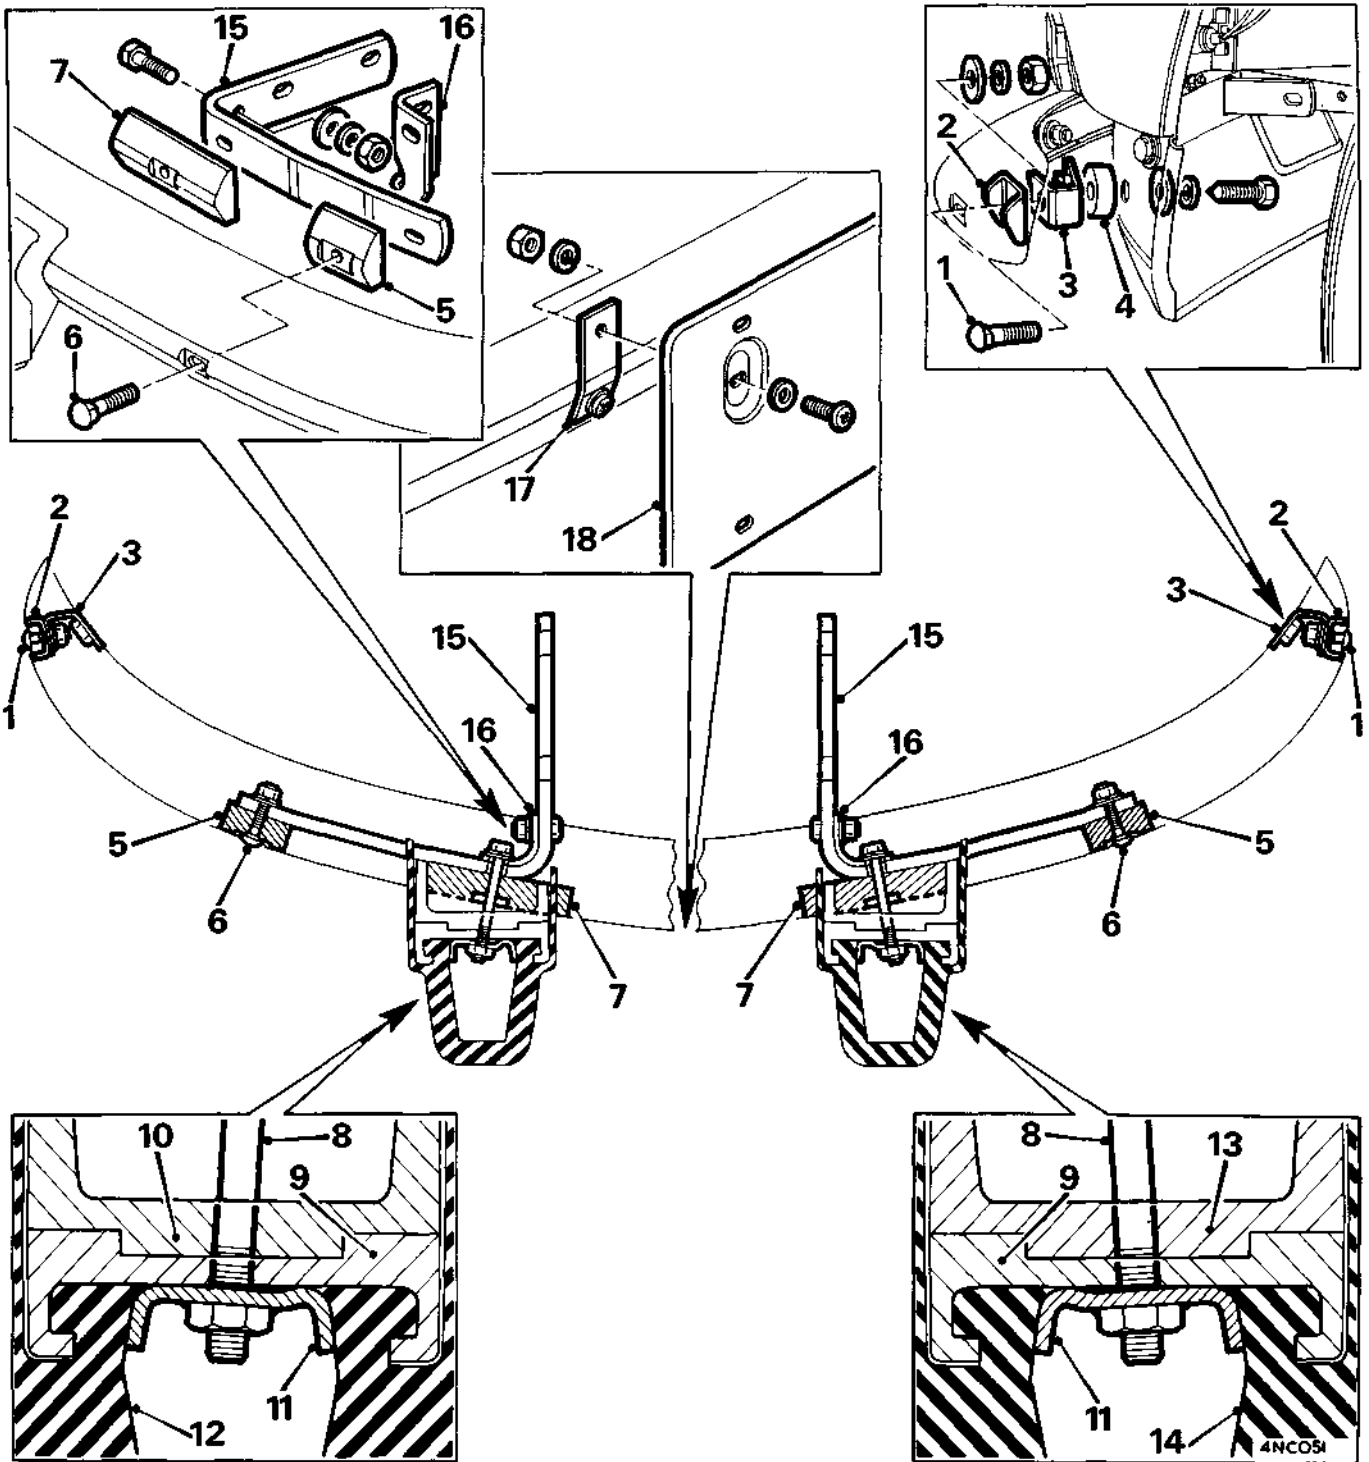

Fig. Ra.6
7. Reverse the procedure in 1 to 6, referring to Fig. Ra.6 and noting the following: